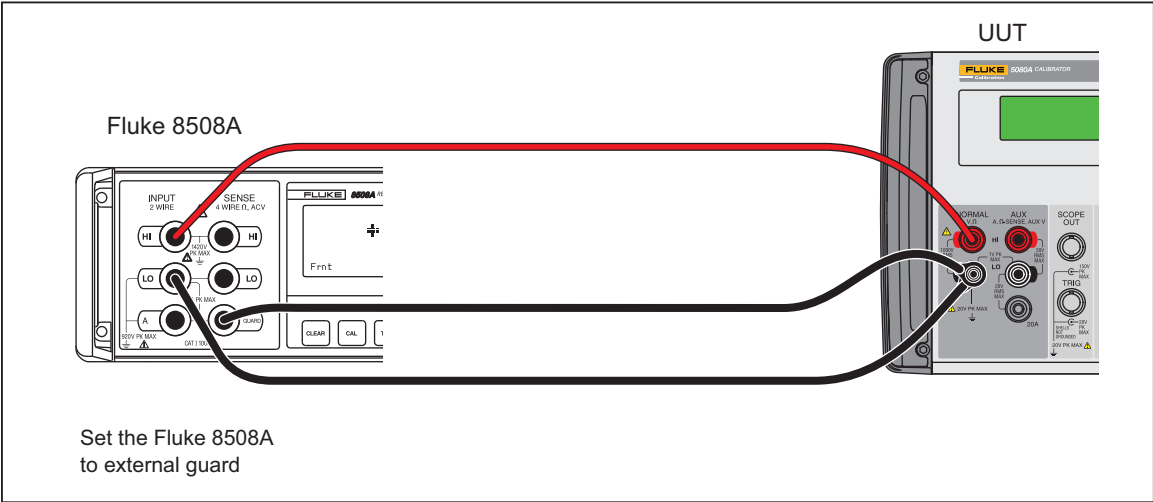

Figure 10. DC Voltage Adjustment Setup
4. Connect the test equipment as shown in Figure 10.